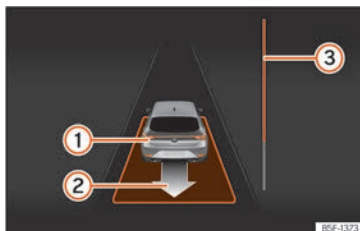

Fig. 204 On the instrument panel display: exit a parallel parking space.
- Reverse until the continuous ParkPilot signal sounds; **OR:** reverse until the instrument panel display shows the forward indication. The progress bar »» **Fig. 204 ③** indicates the distance to cover »» **page 284**.